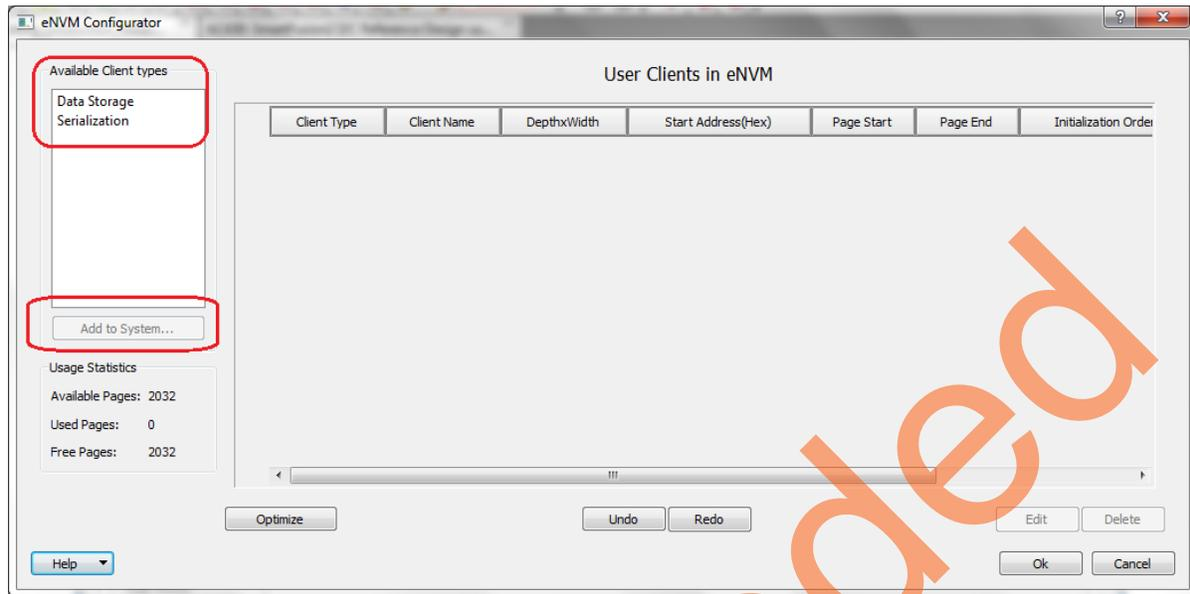
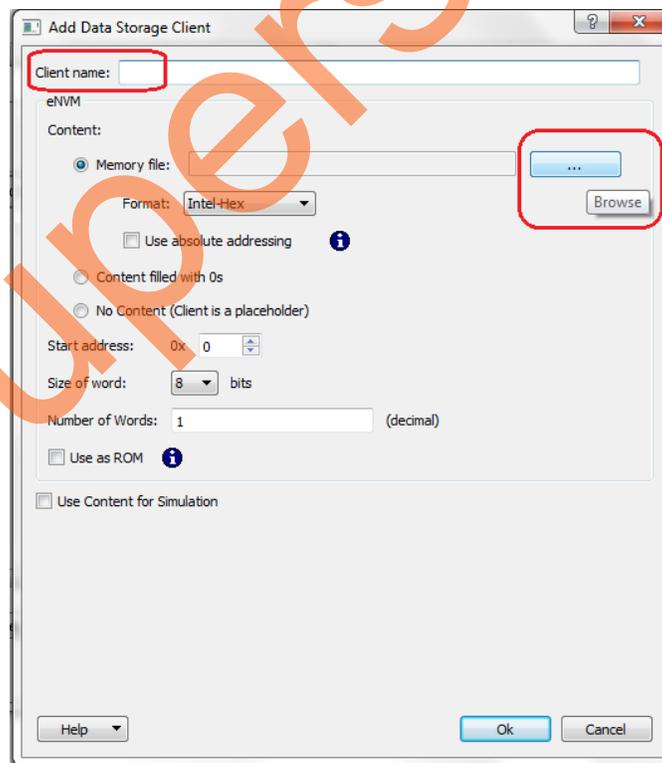

Figure 28 • eNVM Configurator
Figure 29 • Add Data Storage Client Window
3. Double click **eNVM**. The **eNVM Configurator** is opened as shown in Figure 28.
4. Select **Data Storage** under **Available Client Types** tab (see Figure 28) and click **Add to System**. This opens **Add Data Storage Client** window as shown in Figure 29.